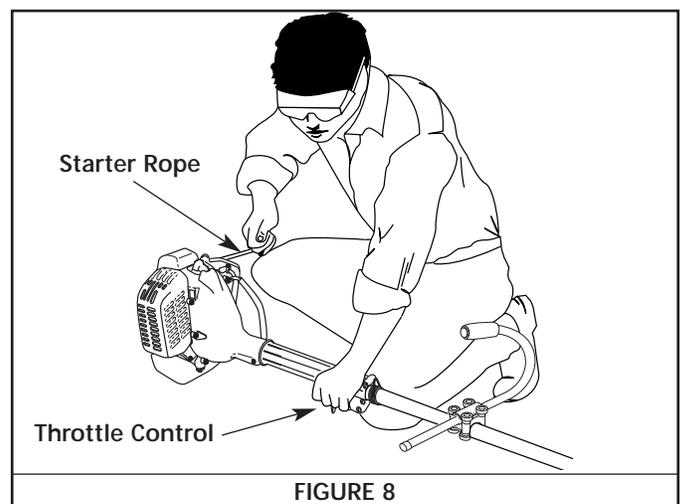

FIGURE 8
7. With the unit in the starting position, pull the starter rope briskly 5 times in the **FULL** choke (A) |←| position. If the engine attempts to run before the fifth pull, proceed to step 8. See Figure 8.
4. With the unit in the starting position, pull the starter rope briskly until the engine starts. See Figure 8.
5. When the engine starts, move the choke lever to the **RUN (C)** |↑| position, and run at full throttle for 30 seconds, and up to one (1) minute in temperatures below 40°F (4°C).
**NOTE:** *Four-stroke engines, like cars, are able to start in the idle position. As an alternate method, you may want to start your unit in the idle position when the unit is warm. With the On/Off Stop Control in the **START** position and the choke lever in the **RUN (C)** |↑| position, pull the starter rope briskly. When the engine starts, run at full throttle for 30 seconds. If the unit fails to start or dies, revert to the Engine Re-Start procedure for warm engines.*